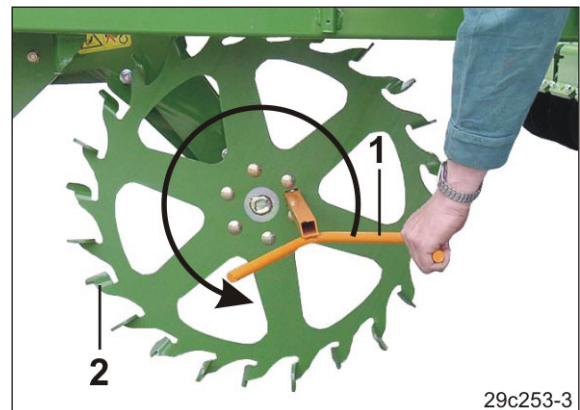

Fig. 135
3. Push the calibration crank handle (Fig. 135/1) onto the star wheel (Fig. 135/2).